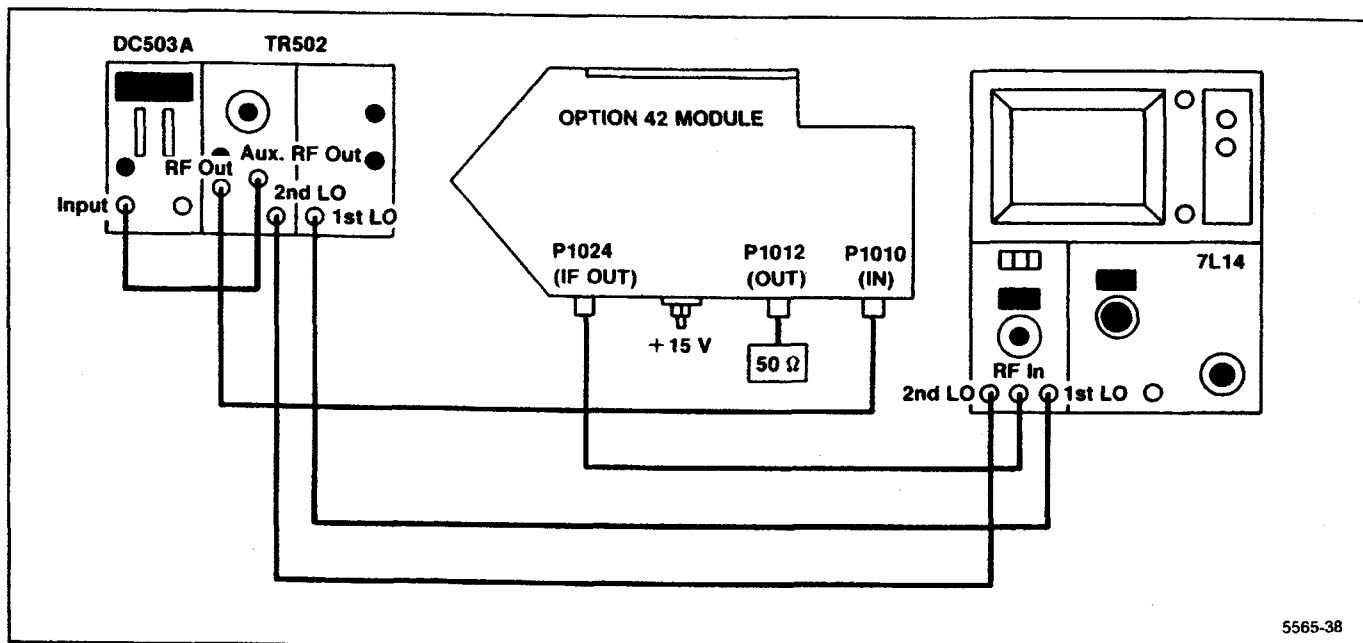

Figure 5-27. Option 42 adjustment test equipment setup.
a. Connect the test equipment as shown in Figure 5-27.